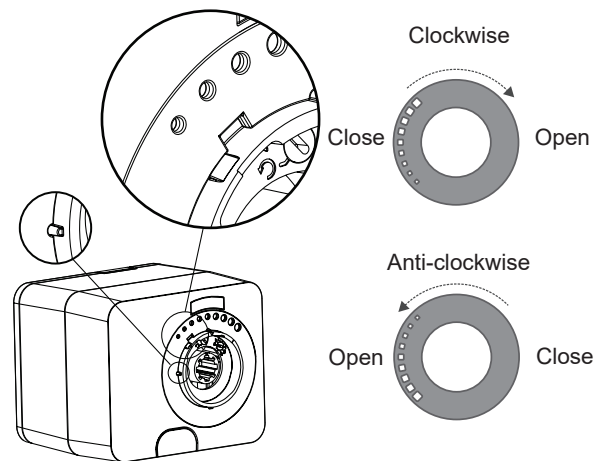

Figure C-5: Actuator scale plate
- Place a small flat head screwdriver into the square notch on the inner edge of the scale plate, carefully prise it up and lift away from the actuator housing. Refer to Figure C-5.
- Re-position the scale plate to suit the selected orientation of the valve, remembering to flip it over when changing the valve rotation. Ensure the scale plate is correctly located using the 4 small nibs on the actuator body. Refer to Figure C-5.